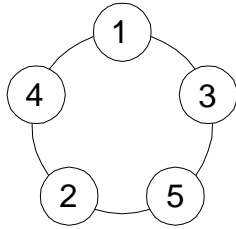

Figure 46
- c. Tighten bolts or nuts in the sequence as shown in Figure 46.